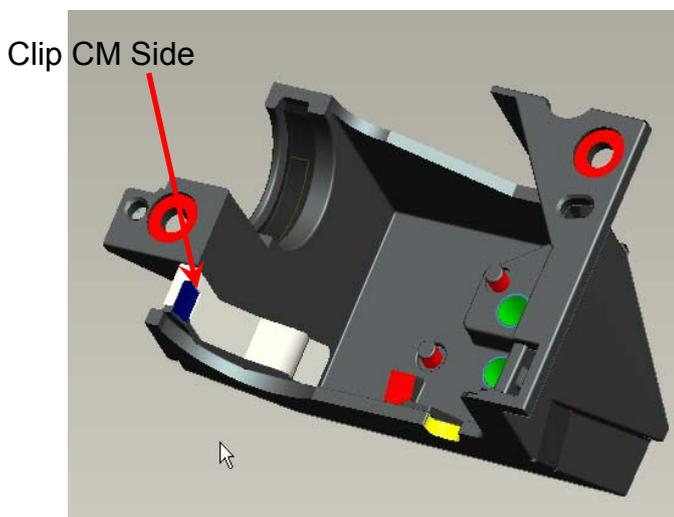
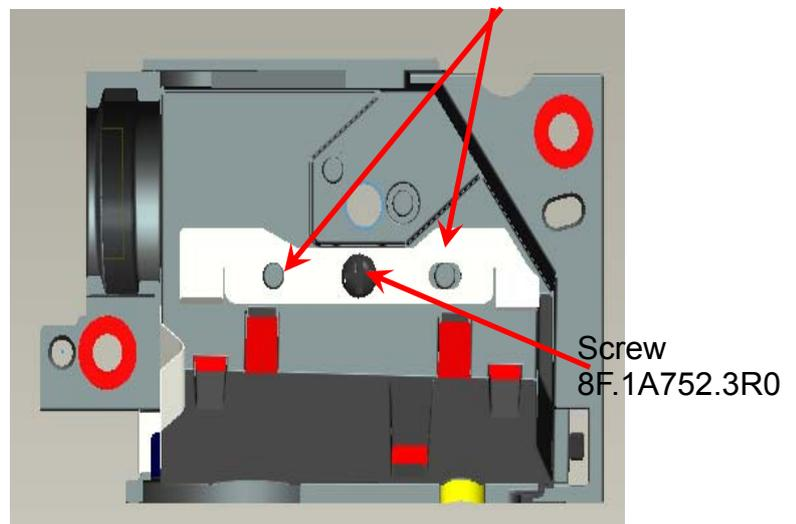

Fig. 6-1
Fig. 6-2
- I. Insert “Clip CM Side” first, and then place “Clip Front CM” to fixed-shaft of ILL SUB before locking screw (Fig. 6-1, Fig. 6-2).